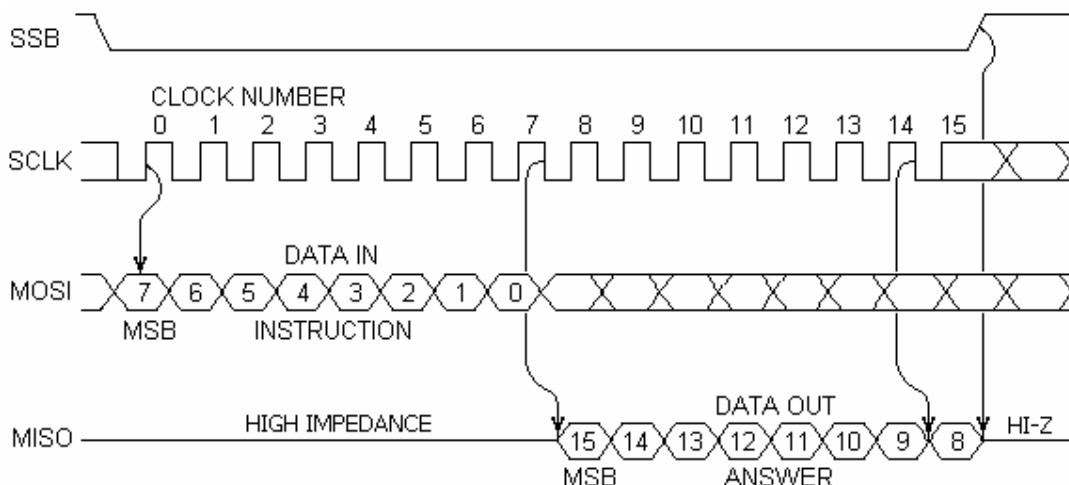

Figure 5-3. Serial Exchange Sequence (the reading of the higher half of the answer)
- If high level is applied to  $\overline{SS}$  during the answer reception, the answer will be truncated. This can be used to limit the reading of the answer to e.g. one byte only (see Figure 5-3).